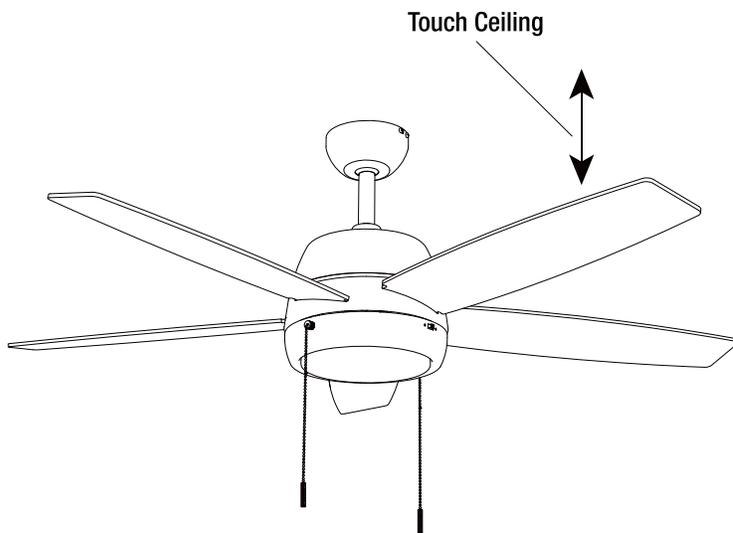

Figure 15
- Most fan wobble problems are caused when blade levels are unequal. Check this level by measuring the distance from the tip of one blade to the ceiling as shown in Figure 15.
Excessive Wobbling.	<ul style="list-style-type: none"><li>□ Make sure that screws which attach fan blade to motor are fastened and tightened.</li><li>□ Tighten screws of fan blade to motor securely.</li><li>□ Ensure that canopy and mounting bracket are tightened securely to ceiling joist.</li><li>□ Check by selecting a point on the ceiling above the tip of one of the blades. Measure this distance and ensure all blades are even (see Fig. 15).</li></ul>